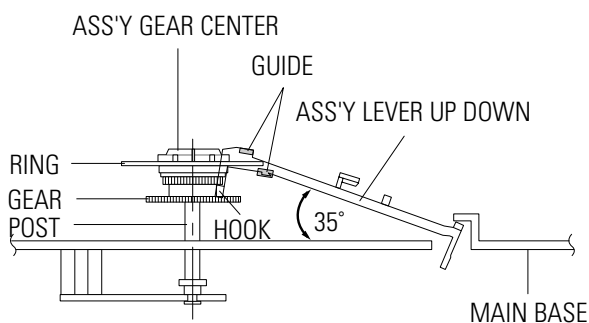

Fig. 5-30 Ass'y Lever Up Down Removal
- 1) Insert the Ass'y Lever Up Down ❶ in the rectangular holes on Main Base as shown in Fig 5-30.
- 2) Lift the Lever Ass'y Up Down ❶ about 35°.
(Refer to Fig 5-30)